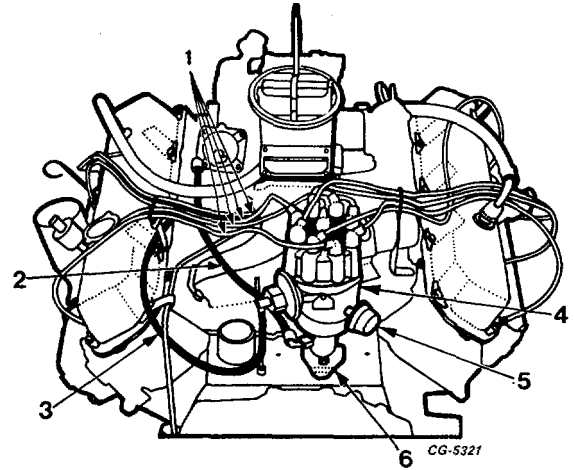

Fig. 28 Distributor and Wiring Removal
26. Disconnect the distributor high tension wires at the coil and spark plugs. Always grasp spark plug boot and use a twisting motion when removing spark plug cables so as not to destroy resistance wire termination. Remove the wires with the slideout brackets on both cylinder head covers and remove the distributor cap and wires as an assembly, Figure 28.
27. Loosen the distributor hold-down bolt at the crankcase, Figure 28. Disconnect the vacuum line and governor line at the carburetor. Remove the distributor, governor line, vacuum line and "O" - ring.